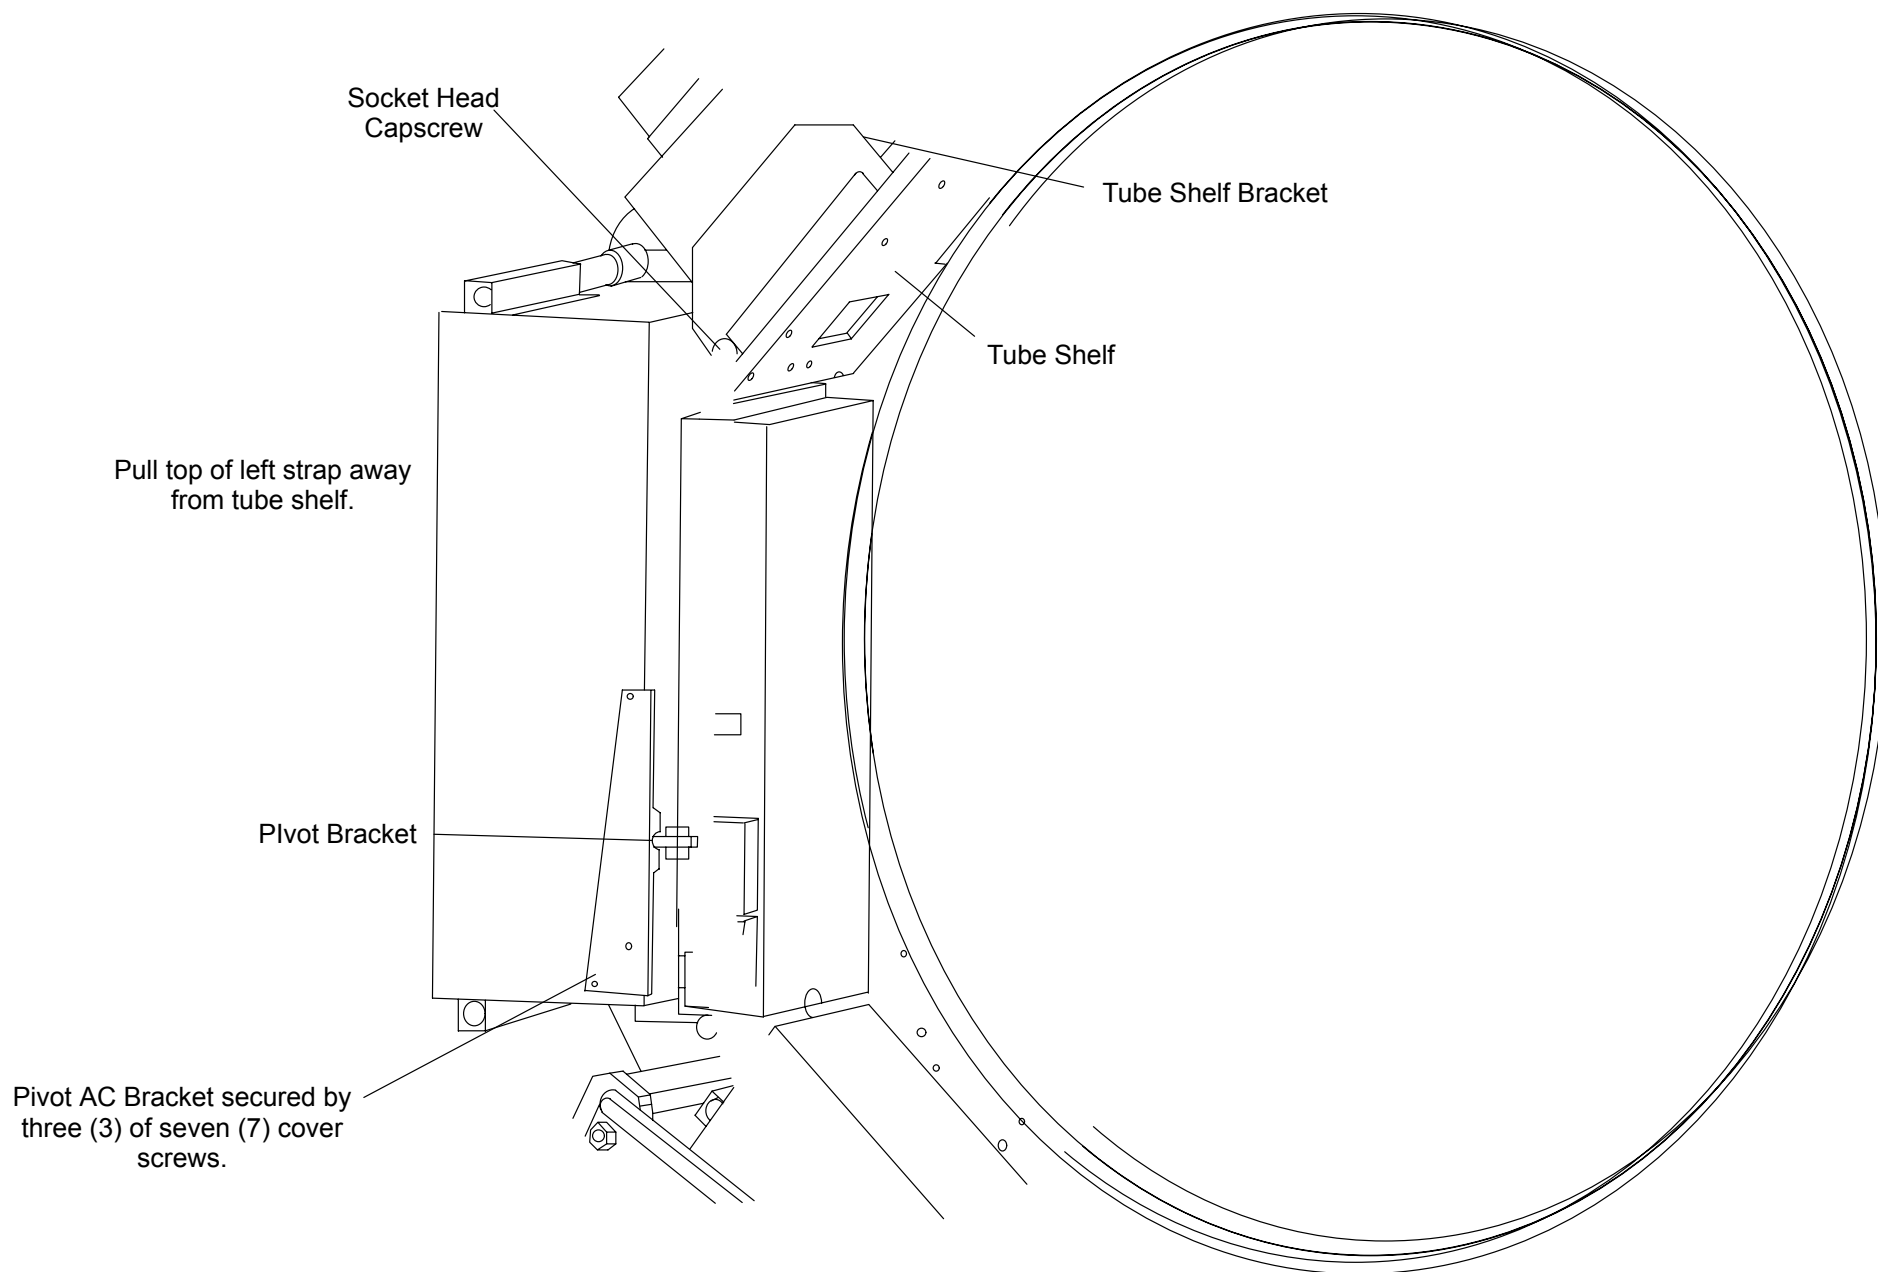

FIGURE 282 Left Strap and Pivot AC Bracket
5. Remove the Socket Head Capscrew securing the Left Strap to the Tube Shelf Bracket. See Figure 282.
6. Remove the Pivot AC Bracket. See Figure 282.